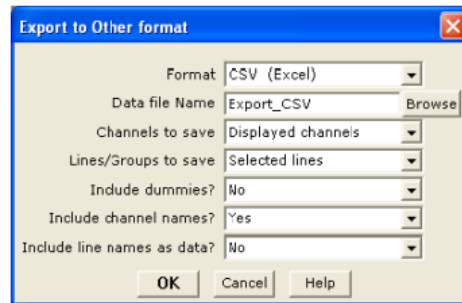

Figure 1.104 – Export to other formats
2. On the *Database menu*, click *Export*, then click *Other*. The *Export to Other format* dialog is displayed, fig. 1.104.